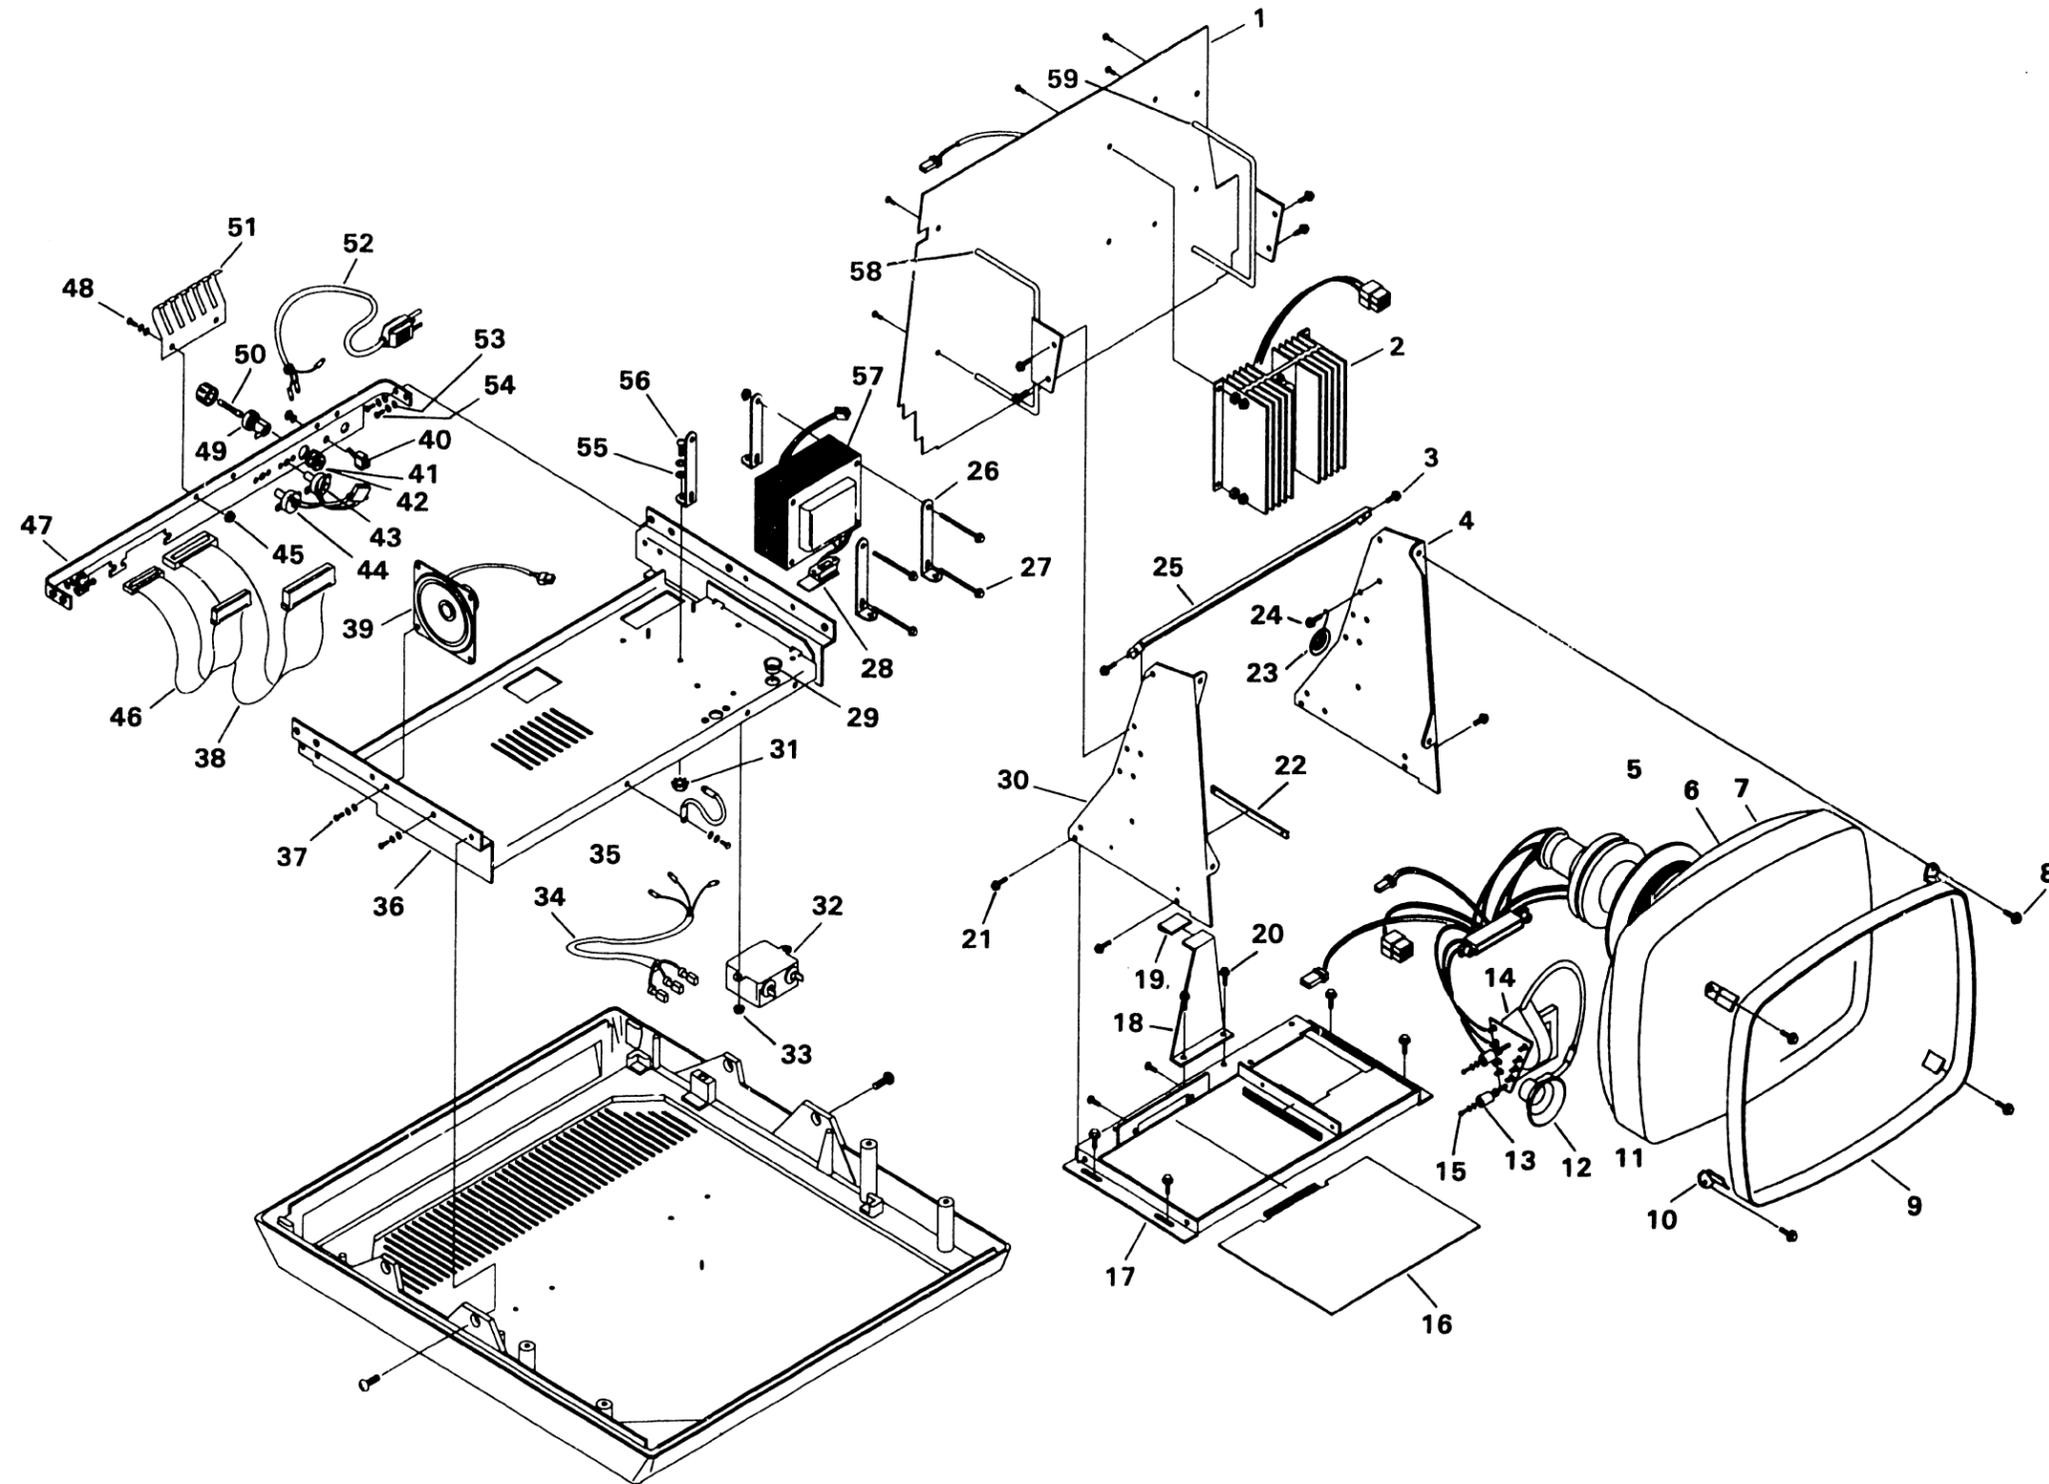

FIGURE 15 12" MONITOR & 2236DE WK/ST CHASSIS ASSEMBLY
- Figure 15. 12" Monitor and 2236DE Workstation Chassis Assembly